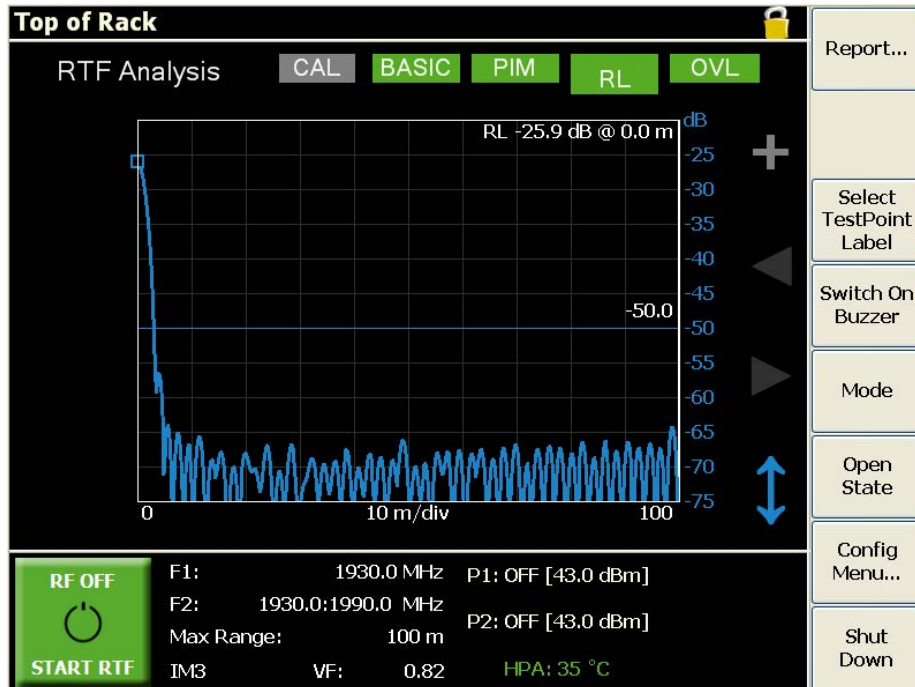

Figure 38 Results of verification sweep (Return Loss vs Distance screen)
4. Now examine the Return Loss vs Distance plot in standard resolution mode. The plot should consist of a single large peak located in the range 0.0 to 0.5 metres, as shown in Figure 38. The amplitude of the peak should be somewhere in the range 18–40 dB, depending on the iQA/iPA frequency variant. The height of the main peak above all the other peaks on the plot should be between 30 and 40 dB.